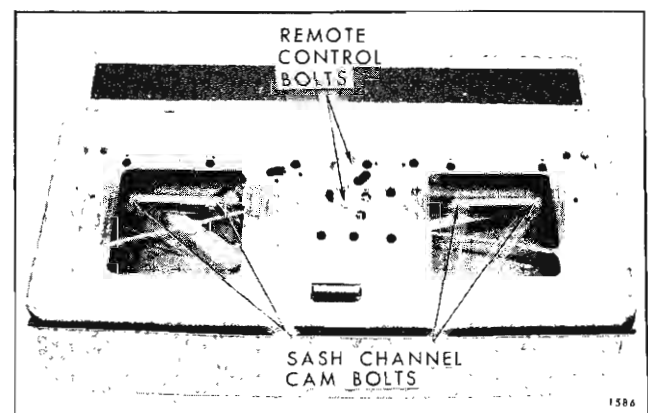

Fig. 1F27—Tail Gate Hardware
4. Disengage torque rod from welded retainer in right side of tail gate (see View "C" in Fig. 1F26).
6. Work torque rod out of opening on left side and remove rod through top of tail gate (see Fig. 1F26).